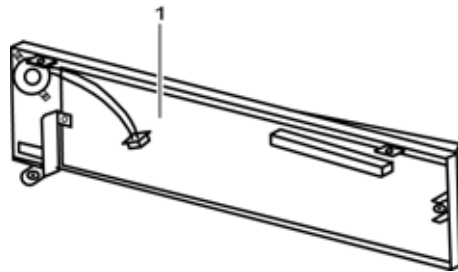

Figure 19: Front Case Bracket
7. Remove the bracket screw, item 2, connected to the front PCB.
9. Remove the bracket and screw connected to the front PCB. See Figure 19 item 1.